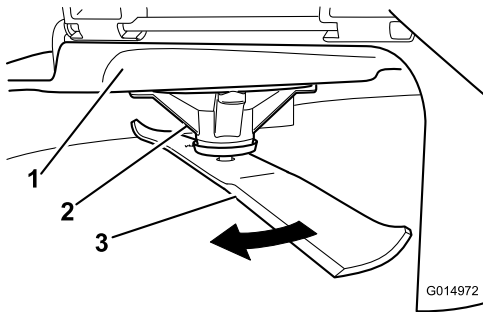

Figure 77
2. While wearing thickly padded gloves, or other adequate hand protection, slowly rotate the blade into a position that allows you to measure the distance between the cutting edge and the level surface the machine is on (Figure 77).